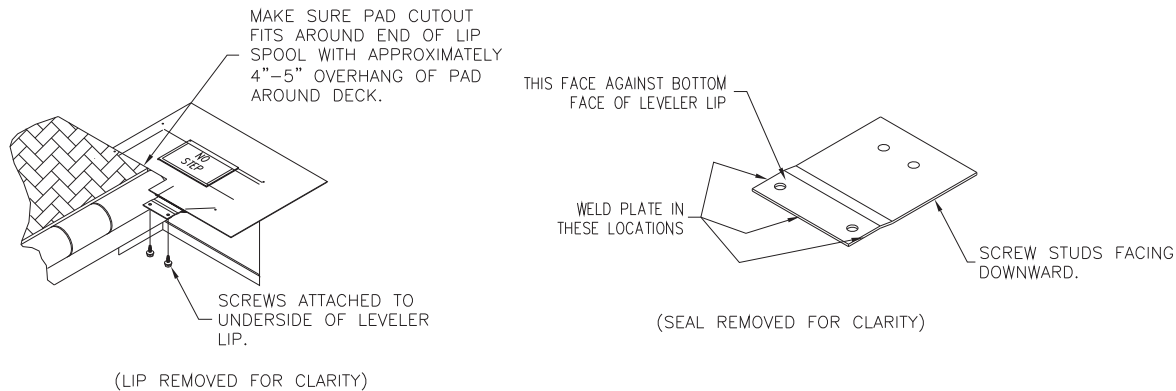

FIGURE 14
- a) Welding (See Figure 14) – clean the edge of the bracket and the area underside of the lip that is to be welded. Locate the bracket into position based on the marks and clamp in place. Tack weld the plate to the lip. Make sure fabric on seal does not get burned by the welding.
- b) Screw mounting (See Figure 14) – Drill blind holes at the marks made on the leveler lip. Use a 7/32" (0.221") drill size. The self threading screws supplied require a specific hole size and any deviation may cause screw fracture or incorrect mounting strength. The use of cutting lubricant is recommended. Locate the bracket into position and screw in place. Take care in using self threading screws. Incorrect installation or over torque may cause the screw to fracture. Best procedure is to partially set the screw, back it out to let the filing come out, and repeat this method until the screw is completely seated.